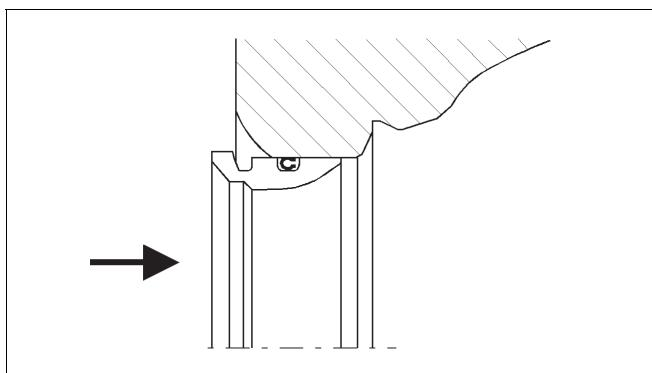

Fig. 16 Precompression of the lip seal
- Place the back seal (6) onto the seat (4).
- Lubricate the flow port, seat (4) and back seal (6) and the lock spring (5) with a volatile lubricant, e.g. Hyprez. Make sure that the lubricants are compatible with the medium.
- **Only for a lip seal:** Push the seal carefully into the flow port for about 15 minutes, Fig. 16. The following work phases must be completed before the precompression is lost.